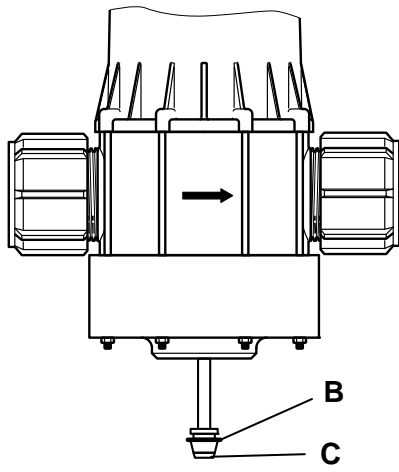

Fig. 18
- Change the seal **B** and the O-ring **C** (Fig. 18).